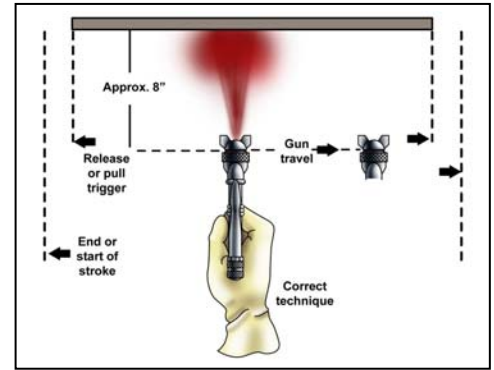

Figure 1
5. Apply primer with the spray equipment using techniques discussed in the lesson and following an appropriate spraying sequence. Refer to Figures 1 and 2.